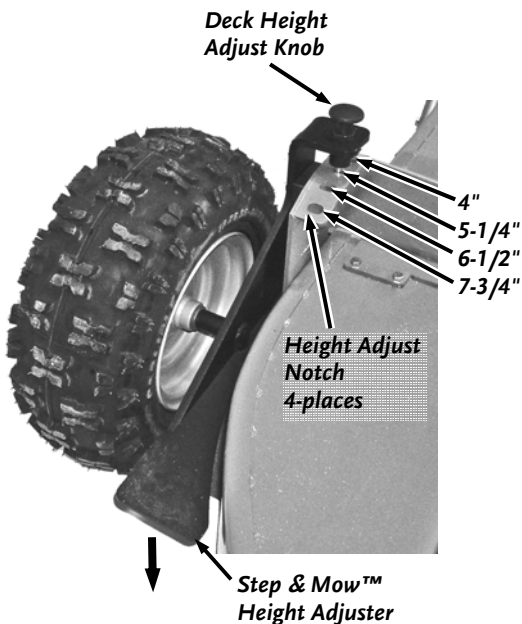

Figure 14
1. To change the cutting height, apply foot pressure to the Step & Mow™ Height Adjuster (**Figure 14**) and at the same time, lift up on the spring loaded Deck Height Adjust Knob and re-position the Knob to the desired height in one of the four Height Adjust Notches on top of the Deck. Repeat this for the opposite side of the Deck.